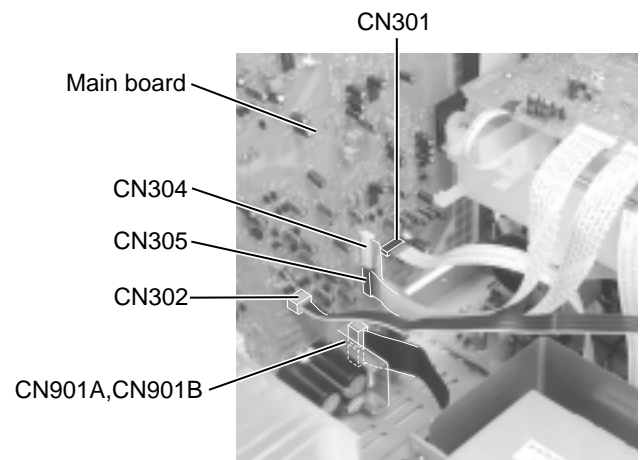

Fig.17
■ Removing the main board (See Fig.17 to 20)